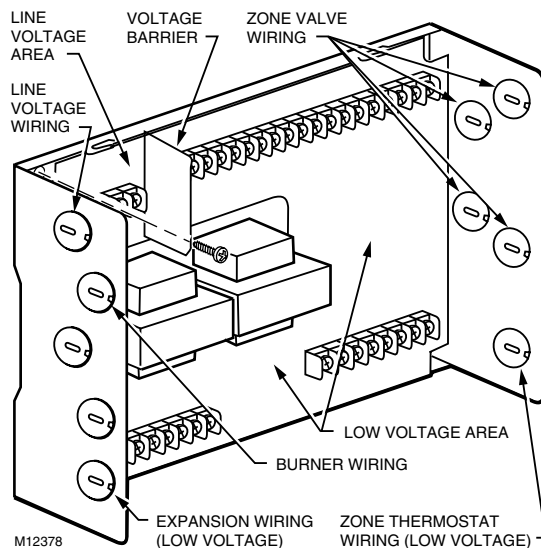

**Fig. 3. Mounting R8889 on the wall.**
Position the R8889 panel on the wall at the selected location. Mount the R8889 horizontally only. Using the panel as a guide, mark the location of the mounting holes. Loosely fasten the panel to the wall using four No. 8-3/4 screws (included) as shown in Fig. 3. Fasten the screws securely.
*The R8889 has knockouts on both sides of the case. Only specific wiring can be run through each knockout. See Fig. 3.*